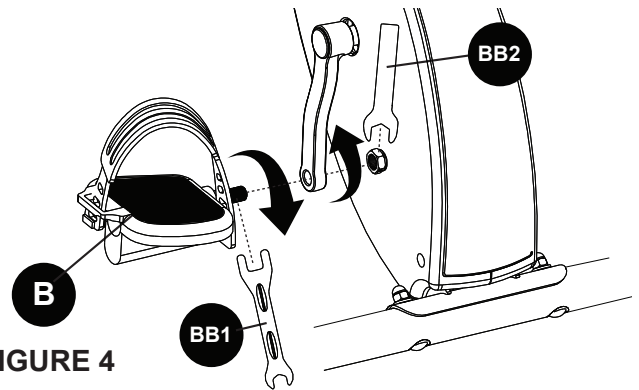

FIGURE 4
Step 4: Using the supplied Wrenches (BB1) (BB2) attach the Left Pedal (B) (106L) to the crank arm by tightening the pedal and holding the back nut at the same time. (Left pedal is reverse thread) **Figure 4**